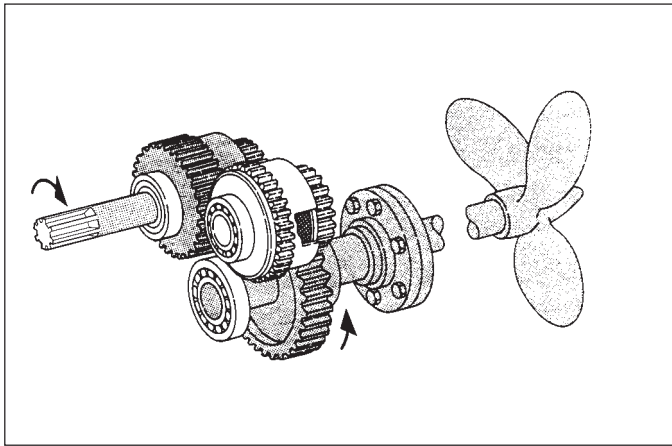

Fig. 1
La trasmissione avviene con rapporto indicato sulla targhetta d'identificazione (Fig. 1).
- **Forward:** *the forward clutch is engaged from the selector valve when it is placed in the forward position. Thus the engaged clutch pack connects the input to the output shaft. The transmission ratio of the gearbox is reported on the gearbox identification plate (Fig. 1).*